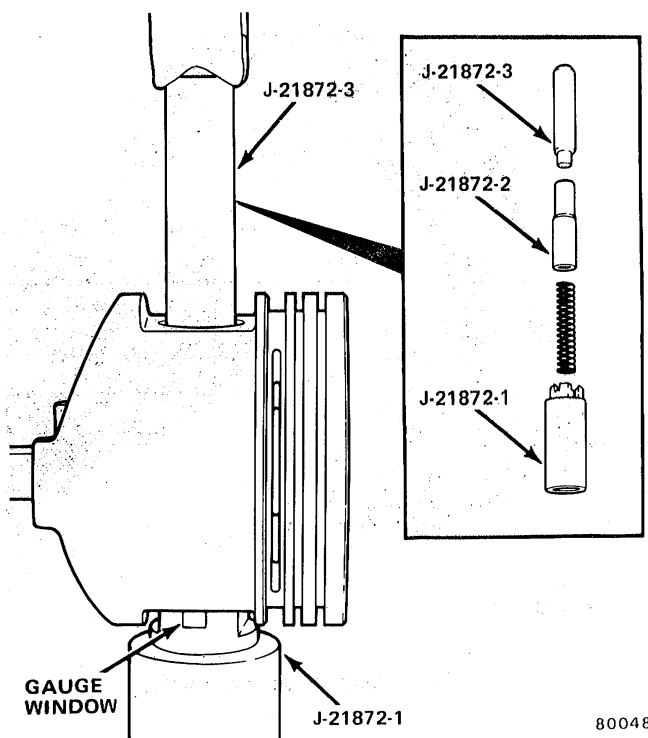

Fig. 1B-145 Piston Pin Removal and Installation
(1) Position piston and connecting rod so that piston notches will face forward and rod squirt hole will face inward when assembly is installed in engine.
(2) Place Pin Pilot Tool J-21872-2 through piston and connecting rod pin bores (fig. 1B-145).
(3) Place pin pilot, piston and connecting rod on Support Tool J-21872-1.
(4) Insert piston pin into piston pin bore and into connecting rod pin bore.
(5) Insert Piloted Driver Tool J-21872-3 into piston pin.
(6) Use arbor press to press piston pin through connecting rod and piston bores until pin pilot indexes with mark on support.